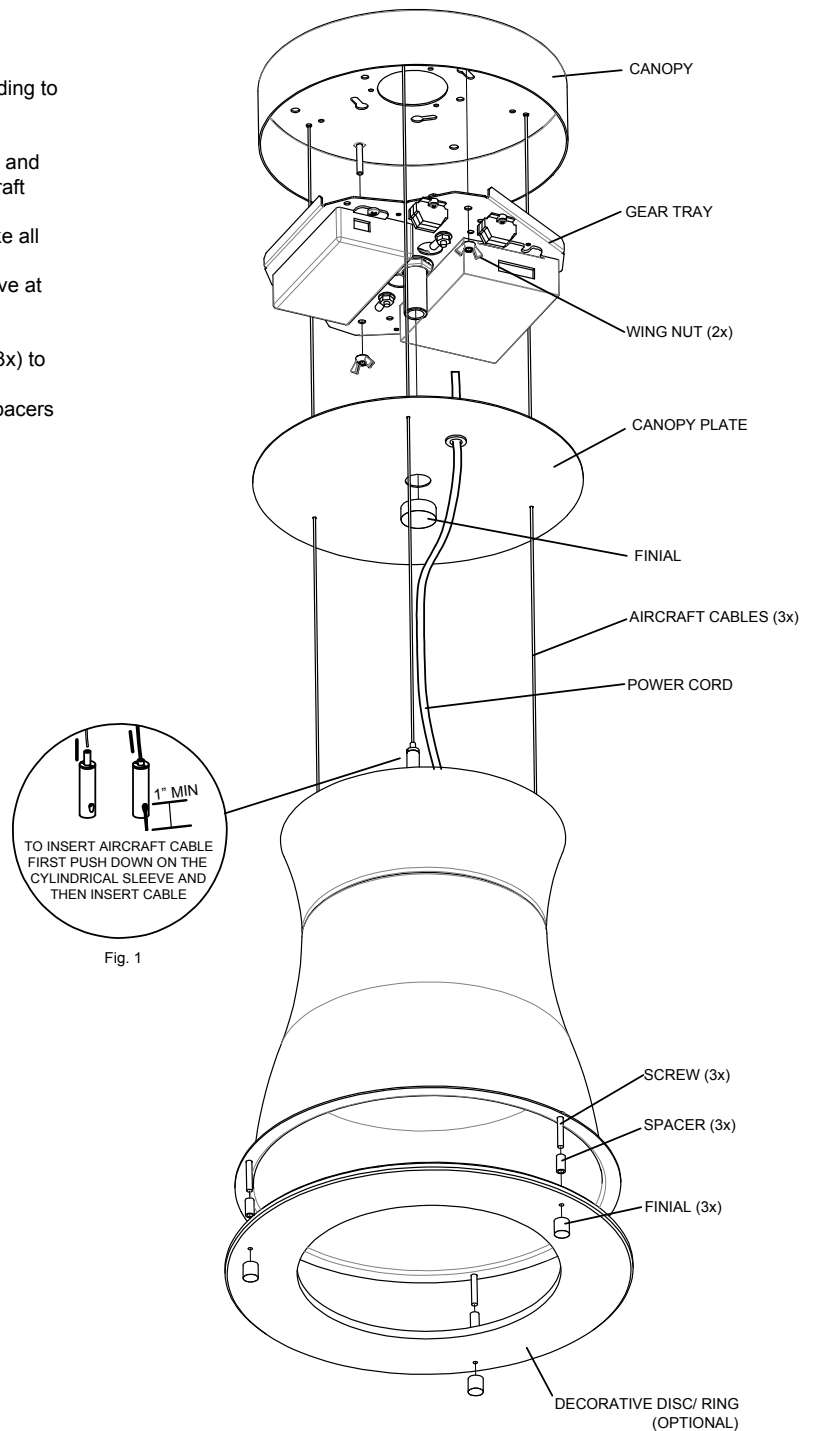

Fig. 1
2. Ensure that the aircraft cables are passing through the gear tray and canopy plate, lift fixture into position and suspend using the aircraft cables (Fig. 1).
4. Level fixture using aircraft cables and trim excess, ensure to leave at least 1" protruding from the exit on the cable glider (Fig. 1).